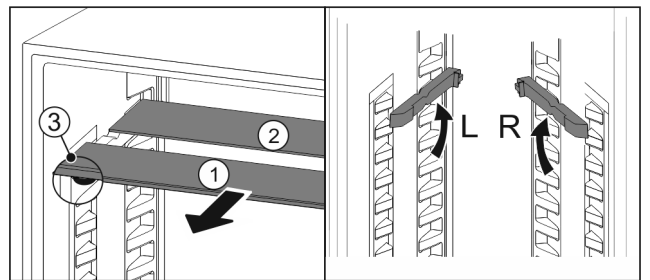

Fig. 33
- ▶ Pull the glass panels out *Fig. 33 (1)* from the front, one at a time.
- ▷ The glass panel *Fig. 33 (1)* and trim strip are at the front.
- ▷ The stops *Fig. 33 (3)* point down.